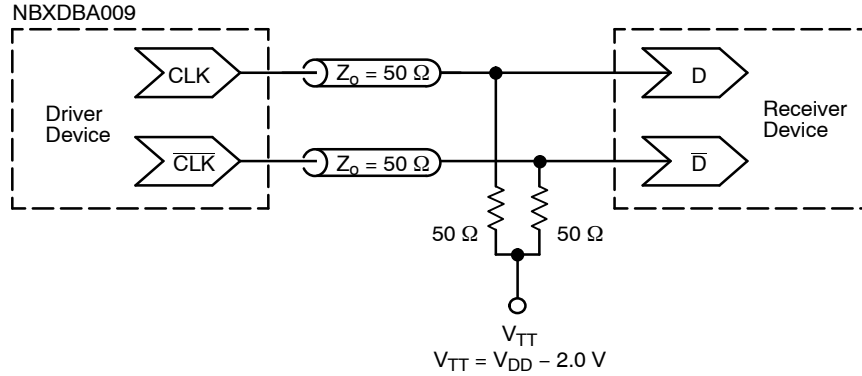

Figure 5. Typical Termination for Output Driver and Device Evaluation (See Application Note AND8020/D – Termination of ECL Logic Devices.)
2. Measurement taken with outputs terminated with 50 ohm to $V_{DD}-2\text{ V}$. See Figure 5.
3. Measurement taken with outputs terminated with 50 ohm to $V_{DD}-2\text{ V}$. See Figure 5.